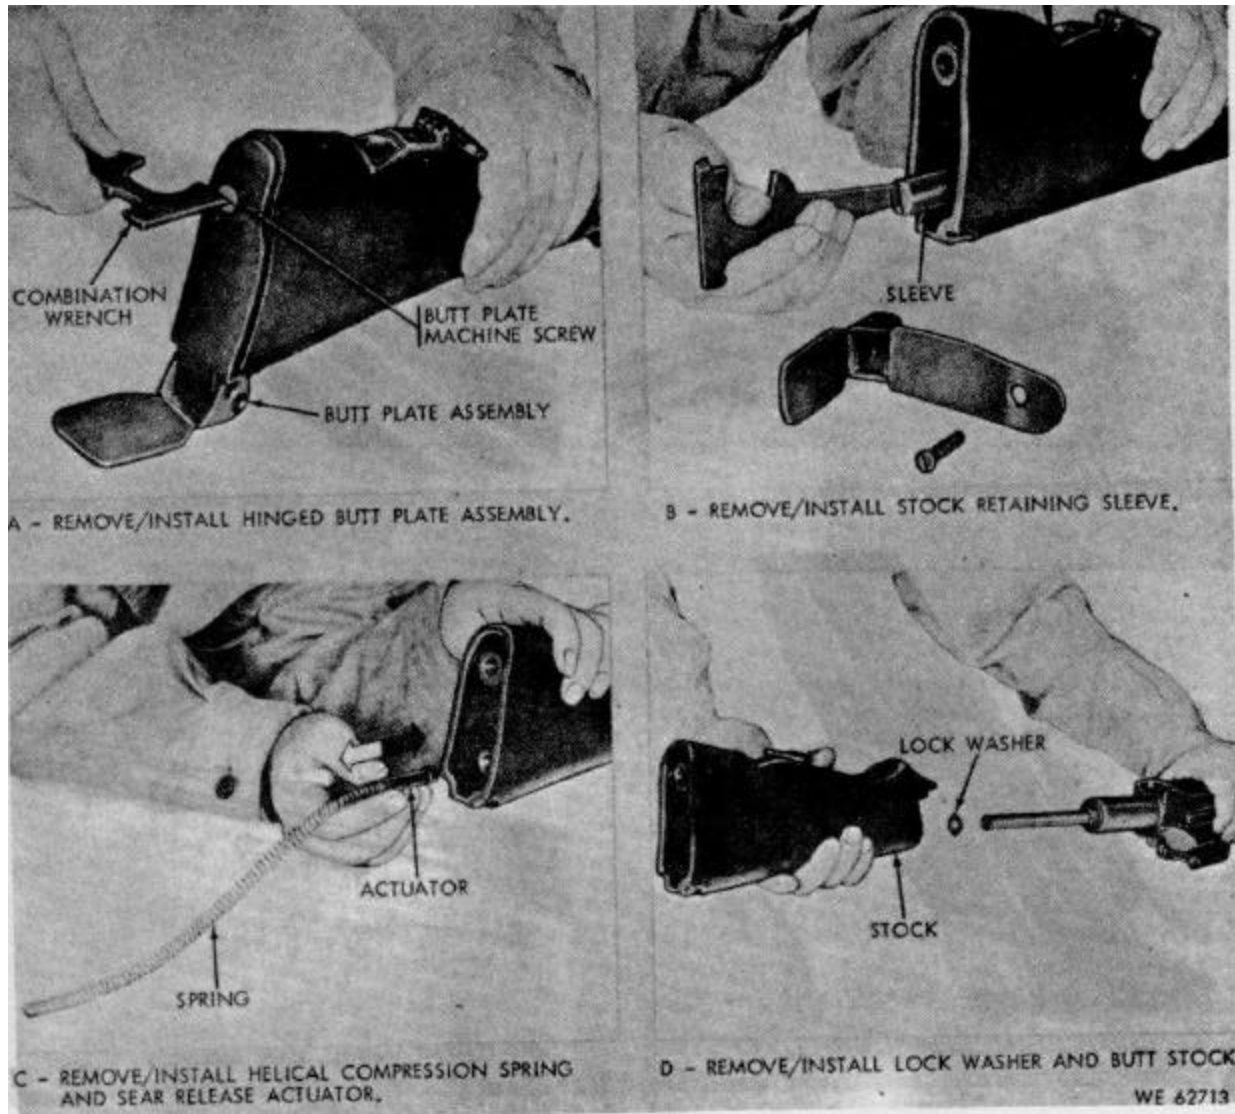

Figure 3-6. Remove/install butt stock, buffer and actuator group.
| Butt stock, buffer and actuator group | Figs 3-6 and 3-7     | <p>use of gloves and protective equipment is recommended.</p> <p>All metal components will be cleaned of all foreign matter with dry cleaning solvent (SD). Cups and cones must be free of burs.</p> <p>If buffer head becomes frozen in tube, soak buffer tube and components in carbon removing compound (PC-111). Use hard wood plug to drive out buffer and components from tube.</p> <p>If cones and cups become frozen, soak in dry cleaning solvent (SD) and tap edges of cup until loose. Clean parts thoroughly.</p> <p>Butt plate assembly will be free of all foreign matter and hinging action perform smoothly.</p> | <p>Inspect actuator tube for wear and dents. Check tube for looseness in buffer cap. Tube should be smooth and polished inside; actuator should slide freely in actuator tube. Defective tubes will be turned in to direct support.</p> <p>Inspect stocks for cracks, scoring, and stripped threads in the butt plate and swivel screw holes. Check hinged butt plate assembly for deformation and free action. The hinged butt plate must work freely when it is rotated and must be held securely in its open position by the bearing ball in the inner butt plate. Defective stocks and butt plate assemblies will be turned in to direct support.</p> |